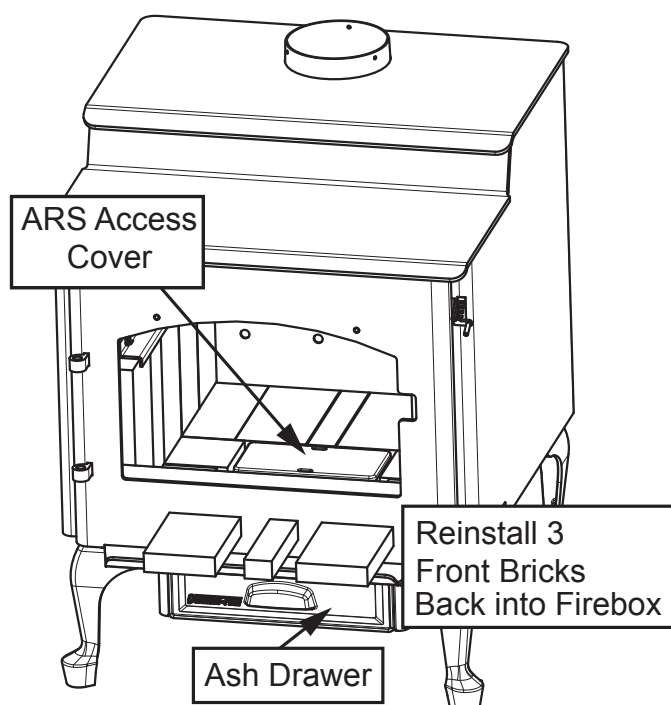

Figure 19.3
8. Replace front 3 bricks that were removed (**Figure 19.3**).
10. Install ARS access cover inside of ARS Channel that is located inside the firebox (**Figure 19.3**).